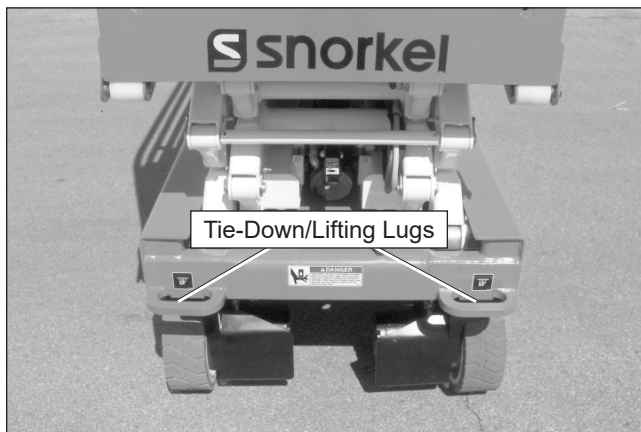

Figure 10.3 – Front of Chassis
5. Attach the winch line to the tie-down lugs (refer to Figure 10.3) on the front of the chassis.
3. Attach the winch line to the tie-down lugs (refer to Figure 10.3) on the front of the chassis.
2. Inspect the front lifting lugs and the rear lifting lugs (refer to Figures 10.3 and 10.8) to make sure they are free of cracks and are in good condition. There are two lugs on the rear of the chassis and two on the front. Have any damage repaired by a qualified service technician before attempting to hoist the machine.